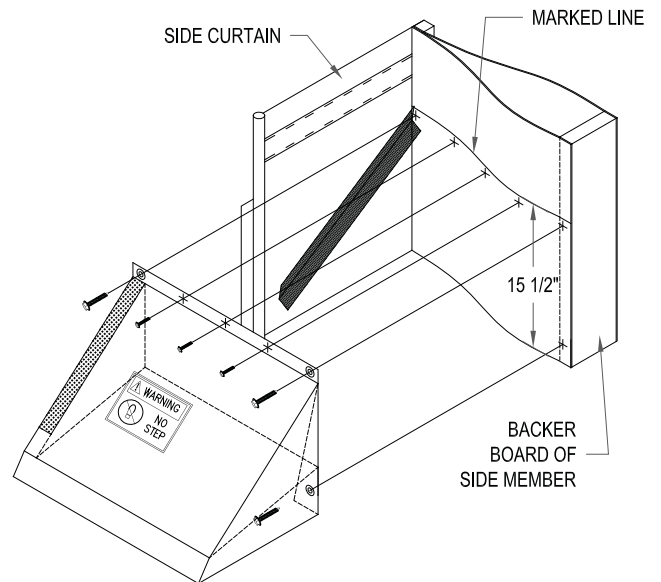

FIGURE 14
Add (3) of the self-piercing #12 x 3/4" hex hd screws down the center of the 1-1/2" fabric strip that is located along the top edge of the draft pad (as shown). Attach draft pad Velcro to side curtain Velcro. See Figure 14.